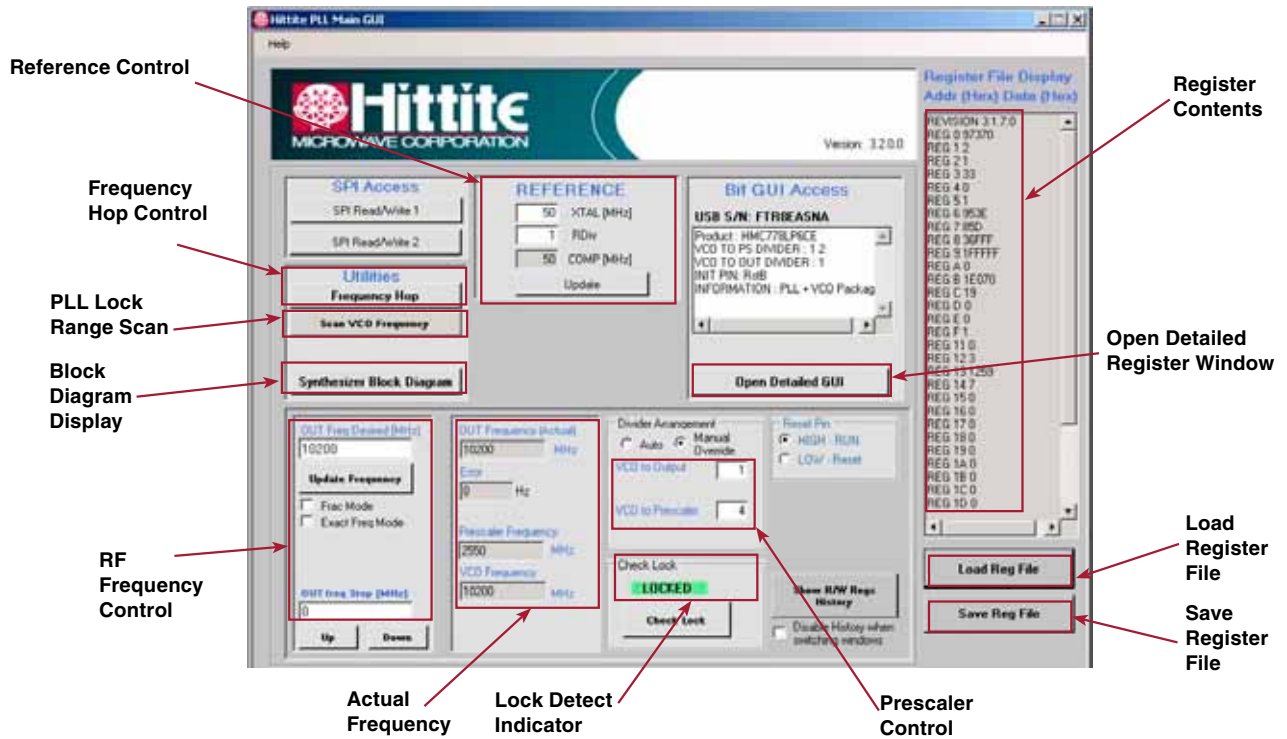
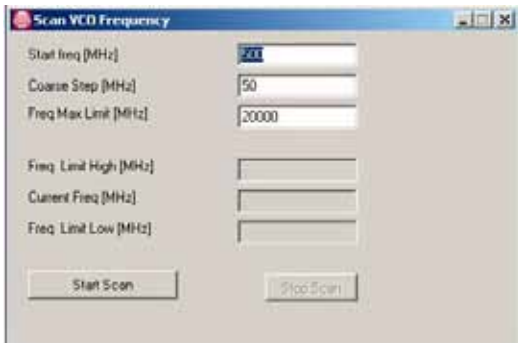

Figure 9. Main Control Window After Loading Register File
Figure 15. Default “Scan VCO Frequency” Window
Step 6. Click “Load Reg File” button to load the register contents of the part (Figure 9.)
Click “Scan VCO Frequency” button in the main control window (Figure 9). A new small window pops out as shown in Figure 15. Set “Start Freq”, “Coarse Step” and “Freq Max Limit”, click “Start Scan” button (refer to the specified Min/Max frequencies of the particular part in the datasheet, set “Start Freq” to Min frequency and set “Freq Max Limit” to 1 GHz above Max frequency). When the scan is finished, the synthesizer locked range will be shown in the window. As an example, Figure 16 shows the scan setting and scan result on HMC778LP6CE. Remember that the frequency lock range is greater than the specified frequency range and the phase noise or spurs will degrade outside of this specified window.
Click “Frequency Hop” button in the main control panel (Figure 9). A new small window pops out as shown in Figure 17. Set “Frequency #1”, “Frequency #2” and “Dwell Time” in this window. Then click “Start” button. The RF signal will switch between “Frequency #1” and “Frequency #2” in the defined “Dwell Time”. Figure 18 shows a typical example of the “Frequency Hop” setting on the HMC778LP6CE. This function usually is used to find the frequency settling time of the synthesizer.